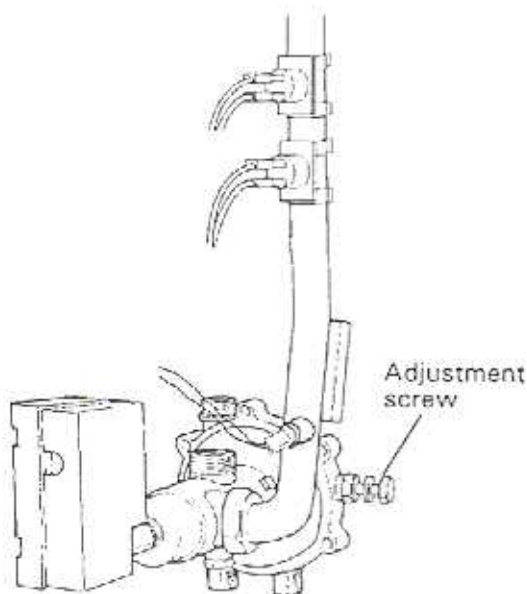

Fig.23
6.11.6 To adjust the flow rate ref to fig. 23 and locate the adjustment screw.